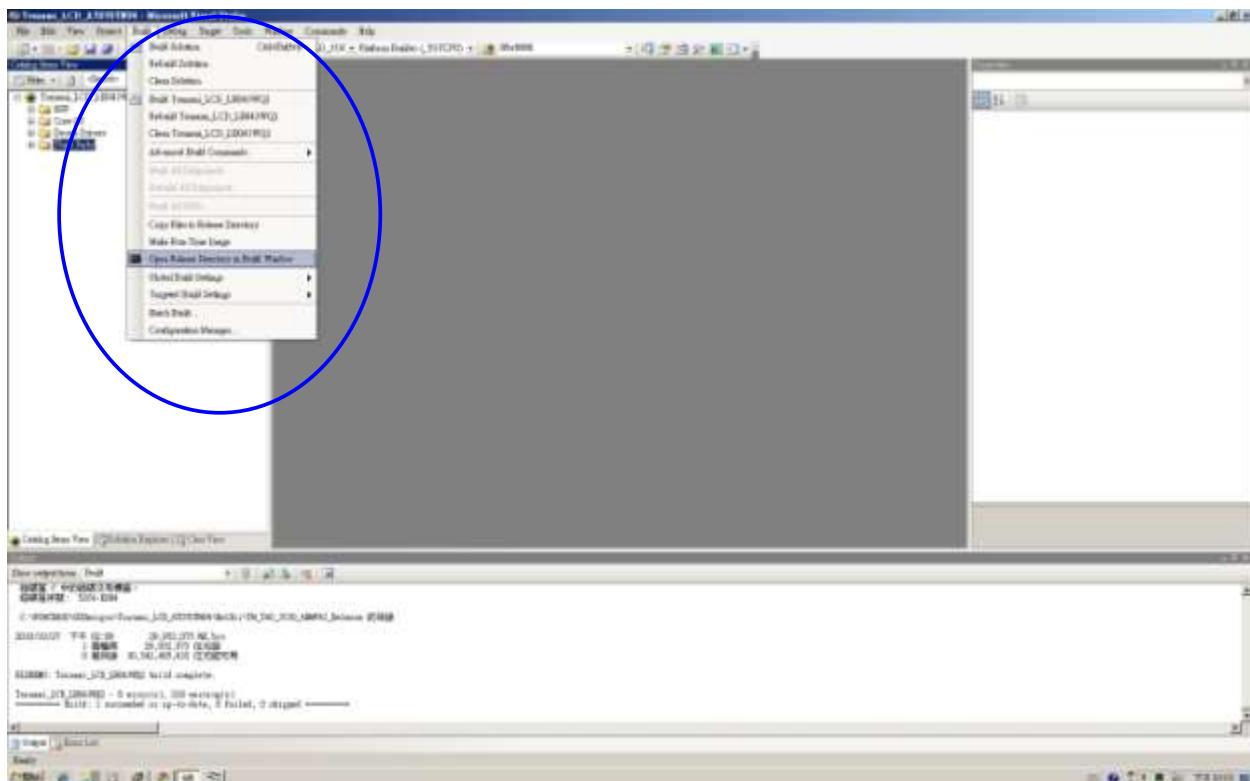

Figure 101
- Click “Build → Open Release Directory in Build Window”. (See Figure 101)